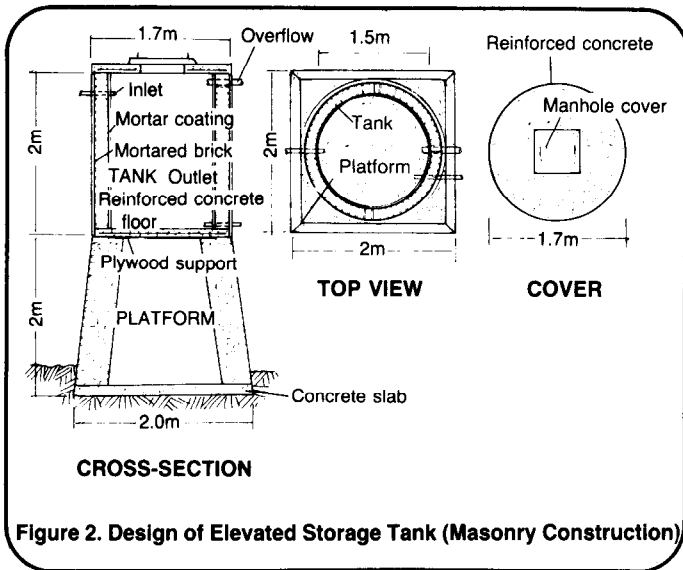

Figure 2. Design of Elevated Storage Tank (Masonry Construction)
3. A plan of the storage reservoir with dimensions shown as in Figure 2. The plan shows a side, front and top view.
An inlet pipe should be attached to the tank so that it enters near the top. See Figure 2. A screened outlet leads from the bottom of the tank to the standpipe connections. The screen strains out sediment that collect on the tank bottom. An overflow should be installed near the very top of the tank.